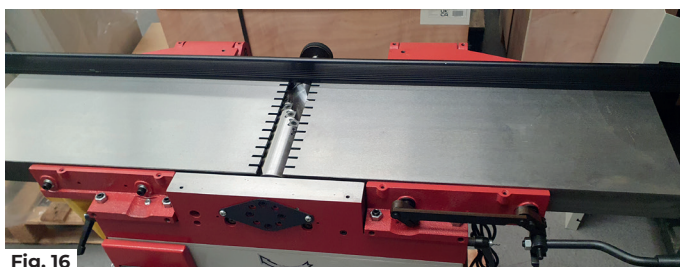

Fig. 16
- 1) Place a long straight edge or clean spirit level on the outfeed table then raise the infeed table up to the stop. If there is a gap on the infeed side between the table & the underside of the straight edge near the cutter block then the infeed table will need to be raised, if the infeed table lifts the straight edge, then the table will need to be lowered (Fig. 16).